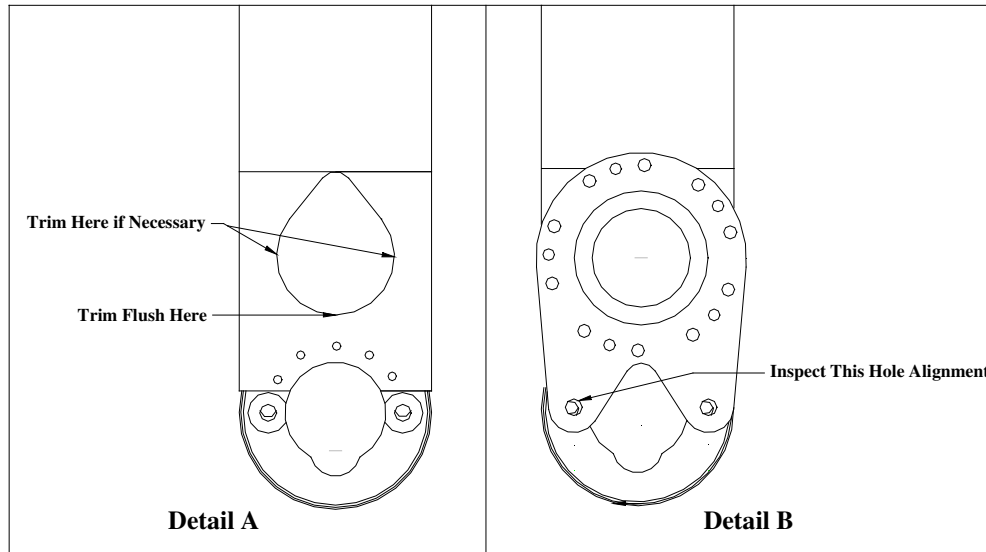

Fig. SB-106-6 Aft End Alignment
- 3.5 The holes should not shift more than $\frac{1}{4}$ hole or .0625 inch and tool AT-278-100 should not make contact with the sheet metal hole on the aft side of the tail cone. See fig. SB-106-6 Detail B.
CAUTION	Do not remove more than .062 inch on any side. The bottom should be flush with the top of the bulkhead. Do not remove any material from the bulkhead. Be sure the finished hole is a smooth contour and is de-burred properly. See fig. SB-106-6 Detail A.